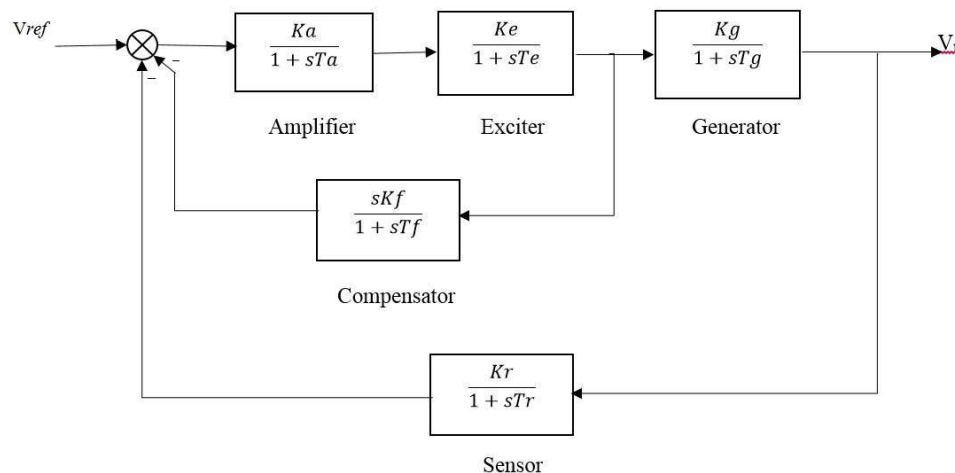

Figure 2: Block diagram of an excitation system with compensator
Suppose a power system consists of two small microgrids. Five Independent Power Producers (IPPs) with Distributed Generator (DG) sets are located in the two microgrids as shown in Figure 2. The five IPPs have committed to supply 30 MW. The maximum DG capacities and their outputs are shown in Table 1. The two regions are separated by transmission tie lines that can transfer 4 MWs in either direction.
Figure 2 shows a block diagram of a typical excitation system. The data pertaining to this system are given below.